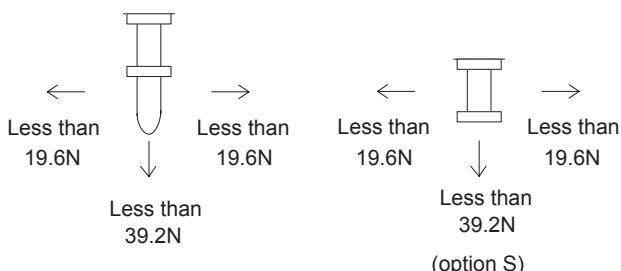

Fig.6.4 Stress to the pins
- As shown in Fig.6.4, avoid applying stress of more than 19.6N (2kgf) to the pins horizontally and more than 39.2N (4kgf) vertically.